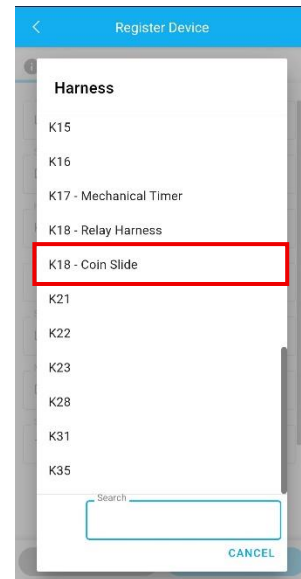

Figure 26
- Be sure to select the specific harness type during registration, in this case select the **K18-Relay Harness** (see **Figure 26**).